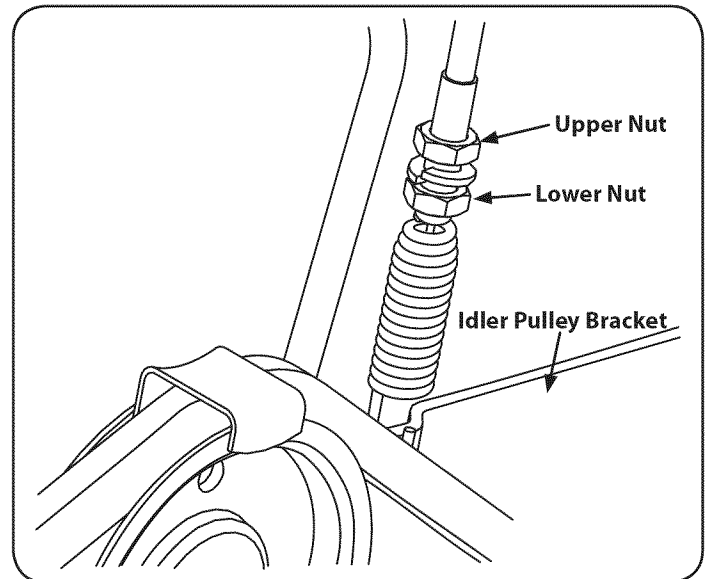

Figure 29
2. Locate the spring at the end of the cable. See Figure 29.